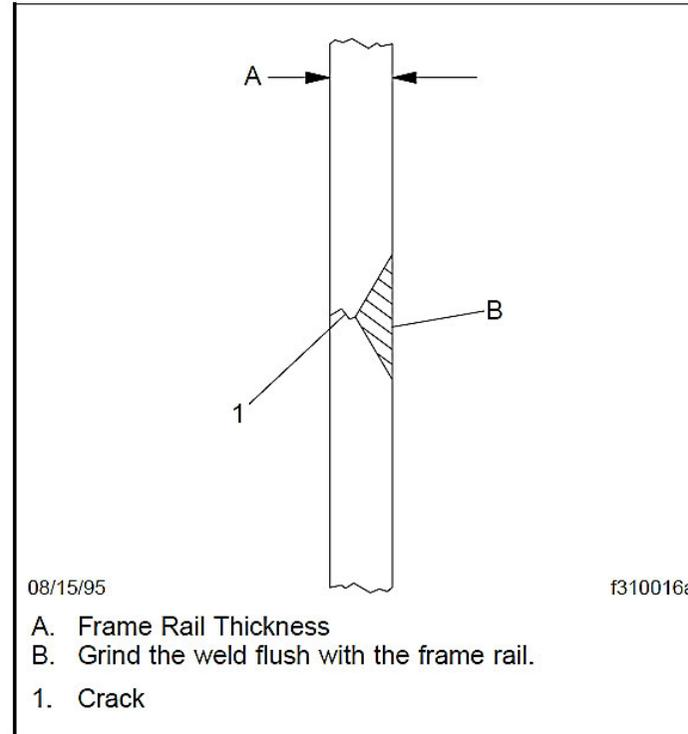

Fig. 5, Weld Ground Flush
4. Grind the weld flush with the frame rail. See Fig. 5.